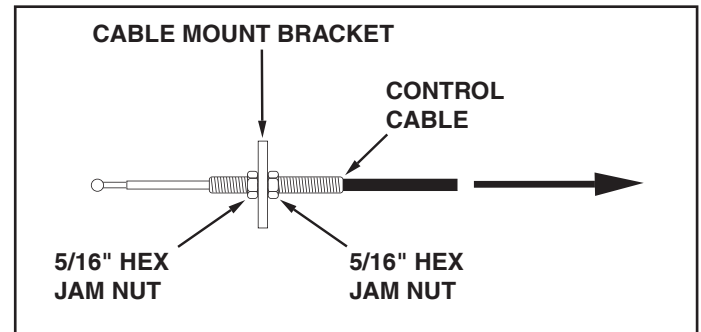

FIGURE 29
- If the blade will not unlock and pivot, the angle lock bars are not disengaging from the slots in the pivot plate. To correct, adjust the 5/16" hex jam nuts to draw the end of the control cable back towards the cable mount bracket. The less the threaded end of the cable extends through the bracket, the more the angle lock bars can retract to disengage from the slots in the pivot plate. See figure 29.